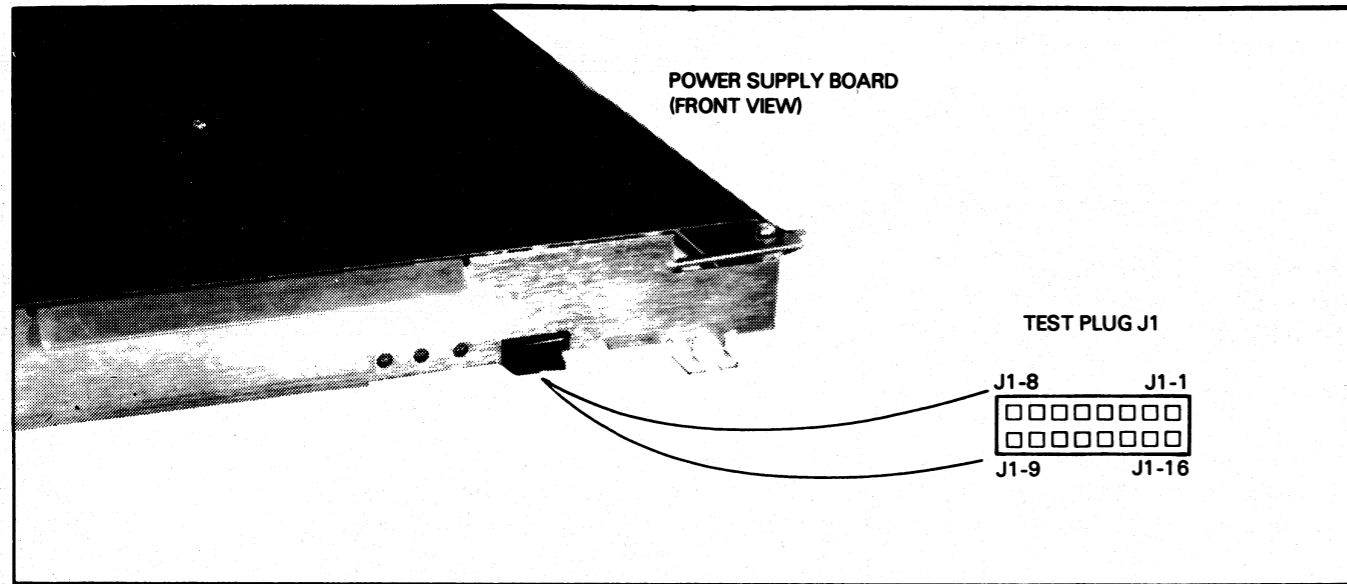

Figure 6.8 Test Plug.
2. Check the +5V voltage at test plug J1-15 (see Figure 6.8). If +5V is between 5.10V and 5.20V, go to "Final Checkout"; otherwise, continue the checkout.
- If -11V is NOT between -11.0V and -12.5V (-30VNR not ok), check the VREF at test plug J1-14 (see figure 6.8). If VREF is 5.8V, replace the VNR unit; otherwise, replace the power supply board.
- If -11V is between -11.0V and -12.5V (-30VNR ok), check the HVS voltage at test plug J1-4 (see Figure 6.8). If HVS is greater than 2.9V, replace the power supply board; otherwise, replace the VNR unit.
6. Recheck the +5V voltage at test plug J1-15 (see Figure 6.8). If it is between 5.10V and 5.20V, go to "Final Checkout"; otherwise, try replacing the internal cable (wiring harness). If this does not work, get help from DGC Field Service.
- Make sure the LOCK switch is in the UNLOCK position. If the fans still do not stop, check the $\overline{\text{PWR FAIL}}$ voltage at test plug J1-3 (see Figure 6.8).
- If $\overline{\text{PWR FAIL}}$ is less than 0.4V, check PON at test plug J1-11 (see Figure 6.8). If PON is less than 0.4V, replace the VNR unit; otherwise, replace the power supply board.